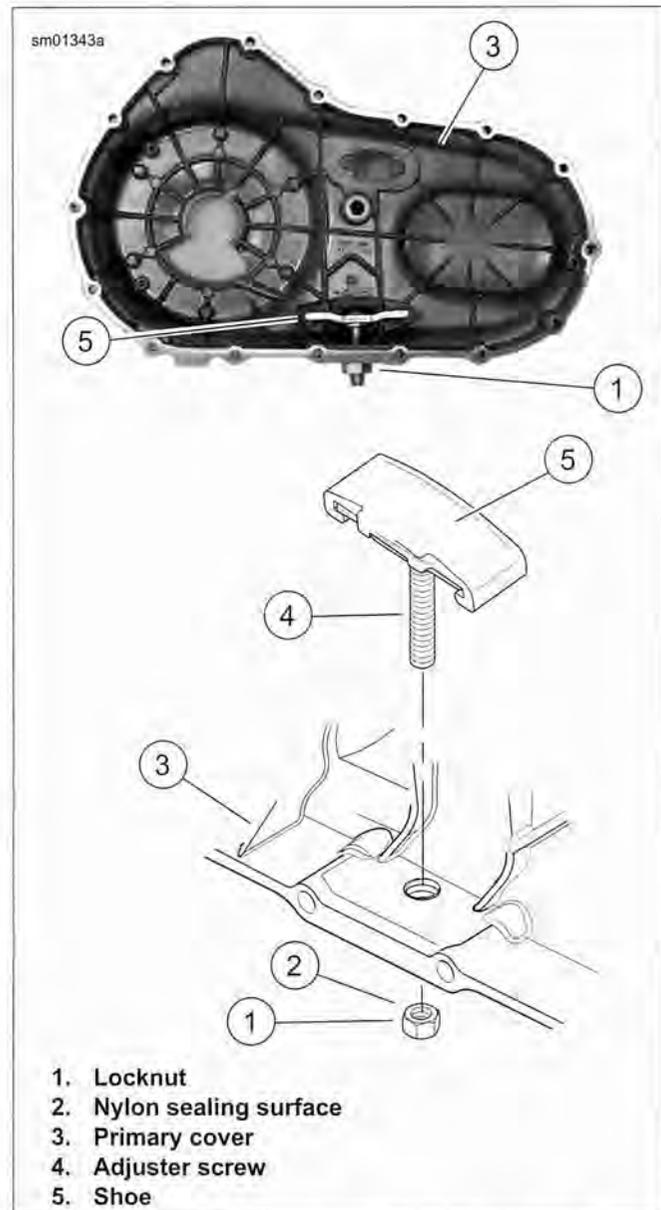

Figure 5-7. Primary Chain Adjuster Assembly
1. See Figure 5-7. Remove locknut (1) from adjuster screw (4). Turn adjuster screw out of the threaded boss in the primary cover (3).
2. Inspect the adjuster shoe (5). Replace if worn or damaged.
3. Position the adjuster inside the primary cover (3) with the closed side of shoe against the cover. Thread the adjuster screw (4) all the way into the threaded boss at the bottom of the cover.